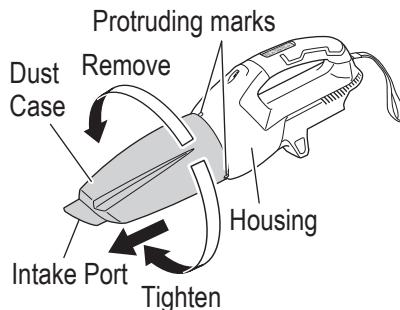

Fig. 6
- (1) Remove the dust case (Fig. 6)